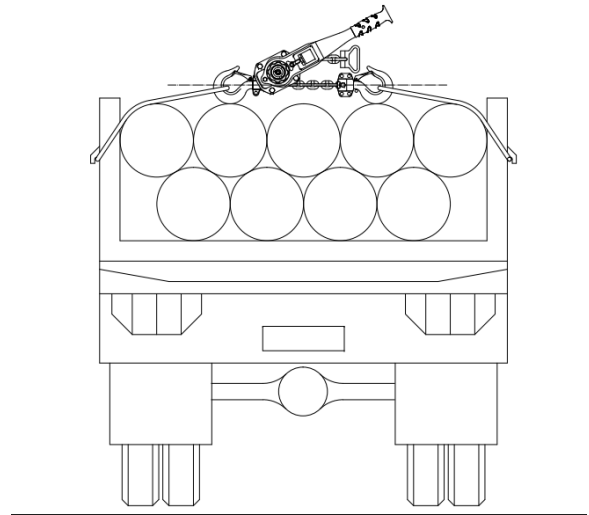

Figure 9
- When connecting to a wire rope sling, the lever hoist must be applied along a straight line parallel to the surface on which it is resting. See Figure 9.